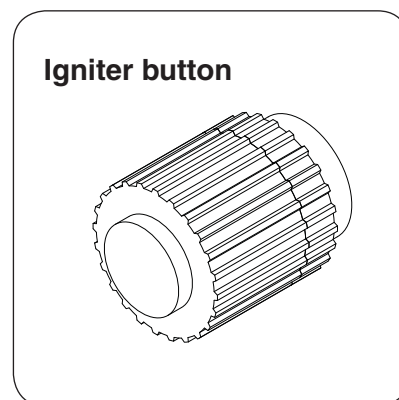

Fig. 25-1
3. Press and hold the electronic igniter button (see Fig. 25-1). The igniter will begin to spark with a rapid clicking sound.